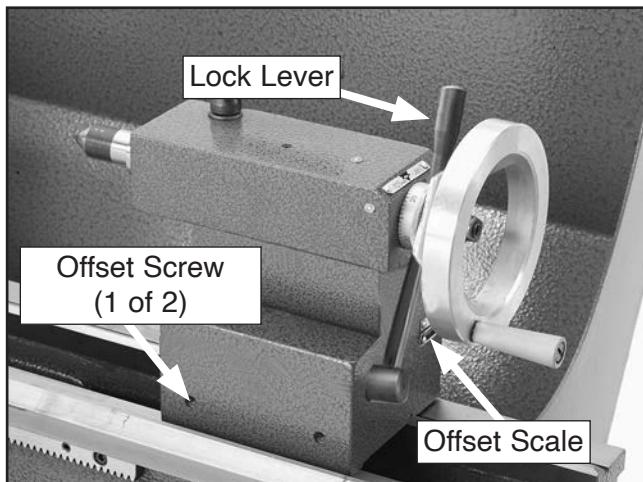

Figure 28. Tailstock offset controls.
1. Loosen tailstock lock lever (see **Figure 28**).